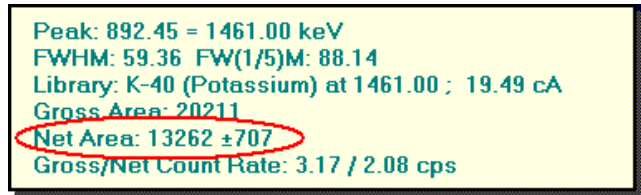

Figure 44. Monitor the Net Counts.
- Now use MAESTRO to count each source individually until you determine the time required to accumulate 10,000 net counts for each. To monitor net counts, clear the detector memory, click in the center channel of the ROI for the current source, then right-click and select **Peak Info** from the context menu. Figure 44 shows a Peak Info box for a peak that has accumulated >13,000 net counts.